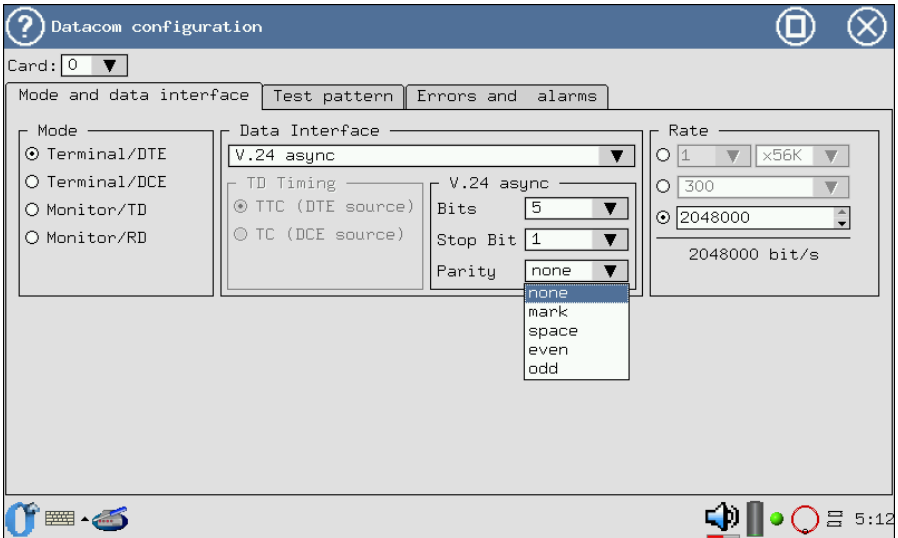

Figure 3.4. Parity check mode selection
5. In the asynchronous modes (**V.24 async** field) it is possible to configure additional parameters (Figure 3.4):